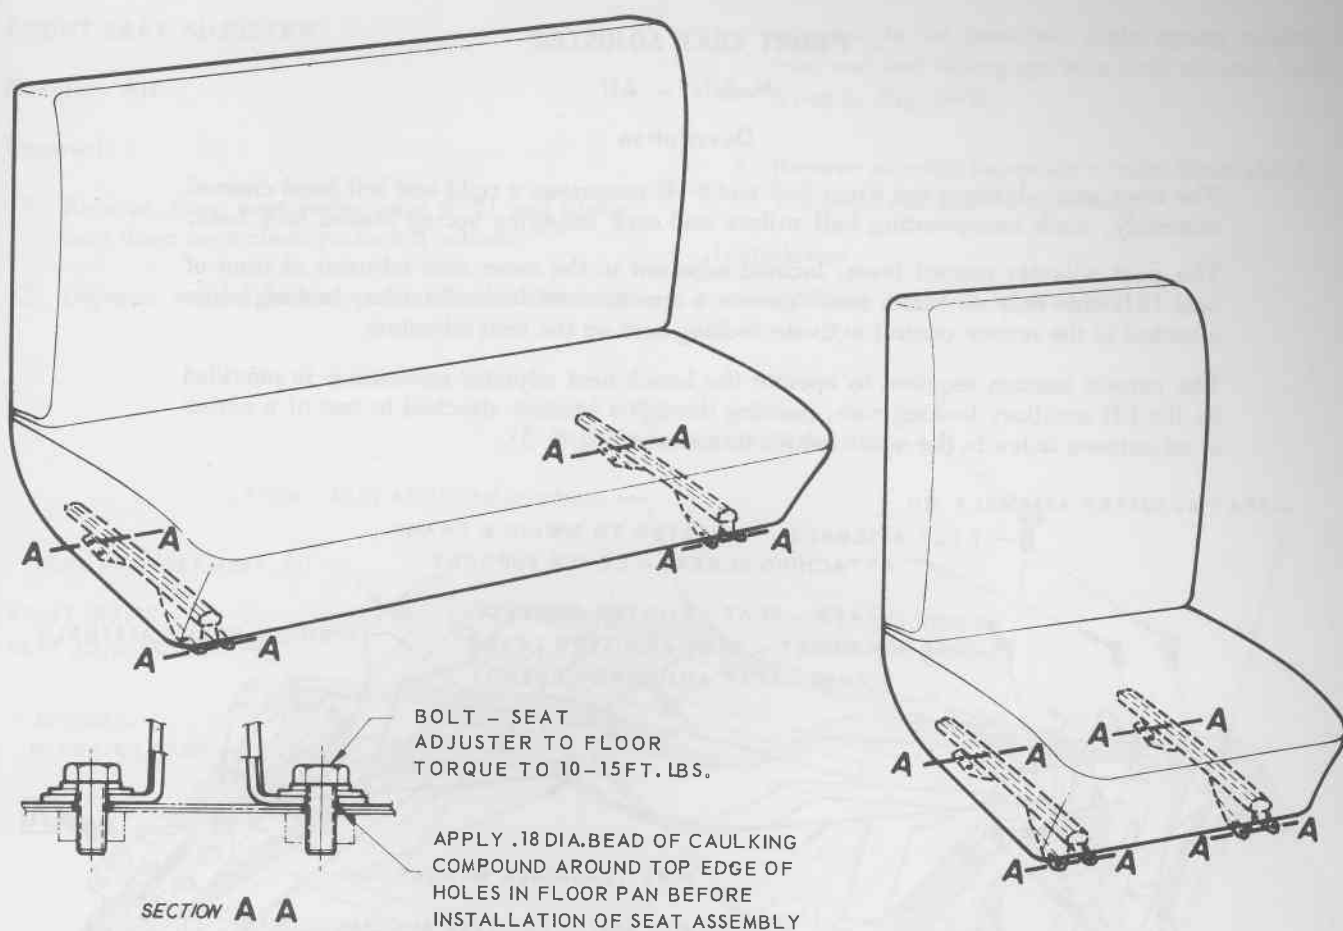

Fig. 8-2
2. Position seat fully rearward and using a thin ratchet spanner with a 5/16" female hexagon insert, remove bolts securing front end of seat adjusters to floor (see Section A-A, Fig. 8-2).
2. Apply caulking compound around seat adjuster to floor attaching bolt holes prior to reversing removal operations (see Section A-A, Fig. 8-2).